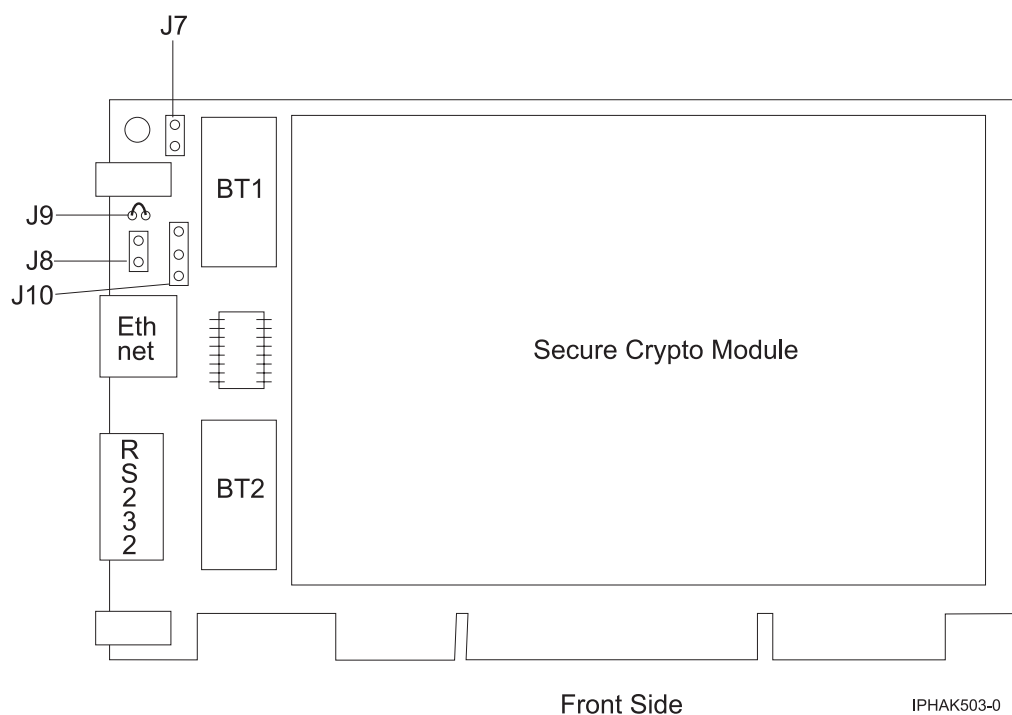

Figure 40. Front side of the adapter
6. Insert one of the new batteries into the battery tray provided with the kit. Align the + on the battery with the + on the battery tray (the end with the red wire). Connect the tray wires to the J10 connector located near the RS-232 serial port, as shown in Figure 40 on page 140. The connector is polarized to ensure a correct connection.